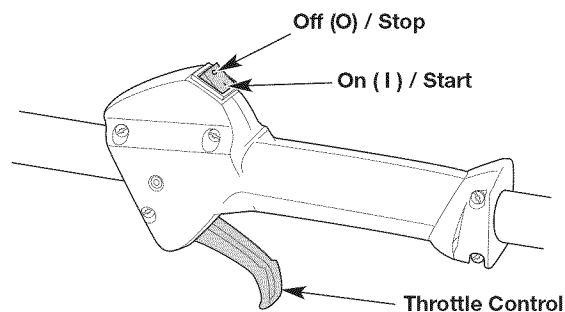
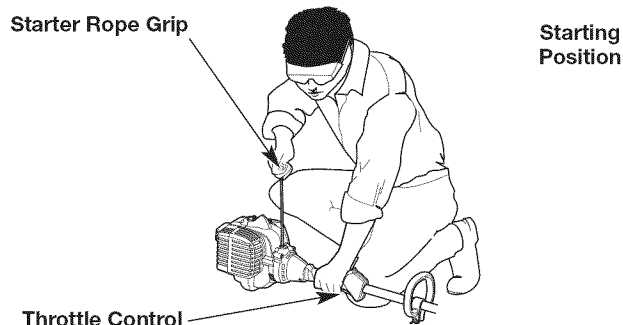

Fig. 7
Fig. 9
**WARNING:** Avoid accidentally starting the unit. To avoid serious injury, the operator and the unit must be in a stable position when pulling the starter rope (Fig. 9).
**NOTE:** There is no need to turn the unit on. The On/Off switch is in the ON (1) position at all times (Fig. 7).
5. Crouch in the starting position (Fig. 9).
6. Squeeze the throttle control (Fig. 7) and pull the starter rope with a controlled and steady motion **5 times** (Fig. 9).
2. Press and hold the On/Off switch in the OFF (O) position until the engine comes to a complete stop (Fig. 7).